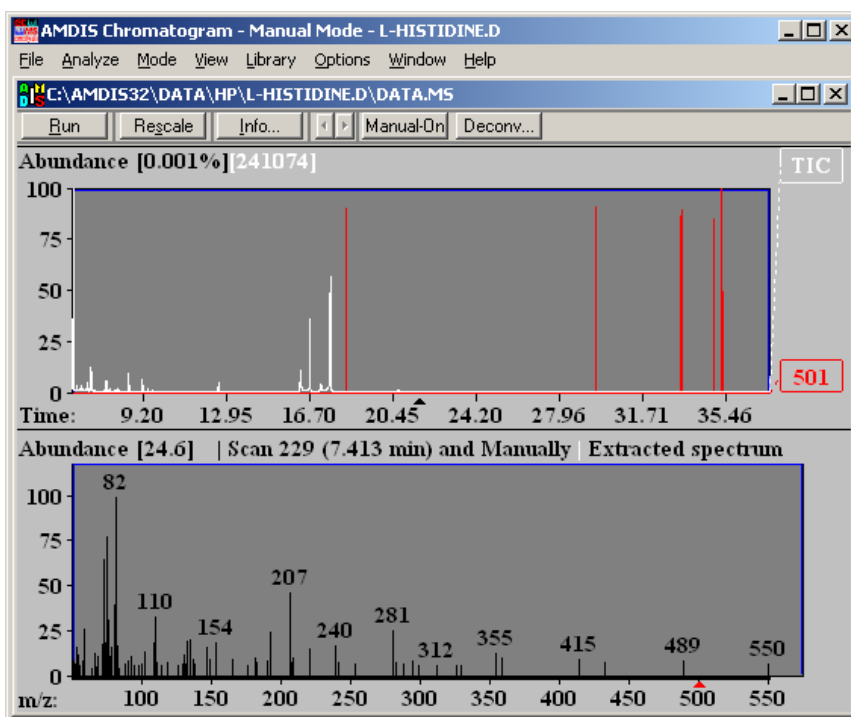

Figure 63 Confirm window showing unprocessed data
When a new data file is initially opened and does not have previously kept results, the Confirm window has two areas consisting of a Chromatogram Display and a Mass Spectral Display as shown in Figure 63.
- 1 Click **File > Open** and in the Select Data File dialog, navigate to the **AMDIS32\DATA\HP** folder, select the file **L-HISTIDINE.d** and click **Open**. The window shows the file's TIC in the upper half (Chromatogram Display). The spectrum at the center of the displayed TIC range is shown in the lower half (Mass Spectral Display). See Figure 63 “Confirm window showing unprocessed data” on page 119.